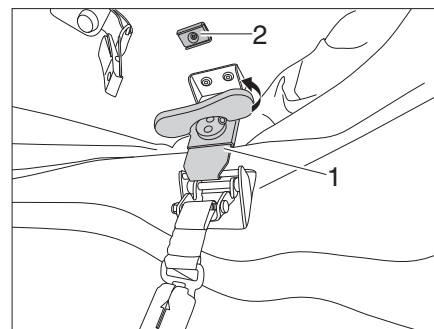
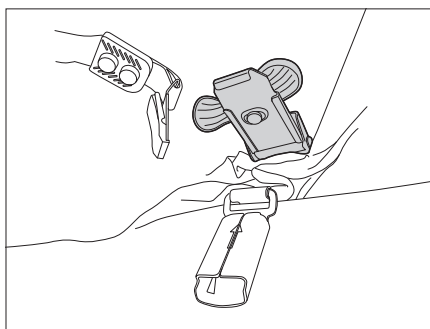

Fig. 33 Releasing the locking mechanisms
Fig. 34 Fastening the locking mechanism
- Set up the twist grips of the left- and right-hand locking mechanism (Fig. 33,1) and turn counter-clockwise until the locking mechanisms are loosened.
- Fold the twist grip further downward and attach the locking mechanism to the magnet (Fig. 33,2) (Fig. 34).